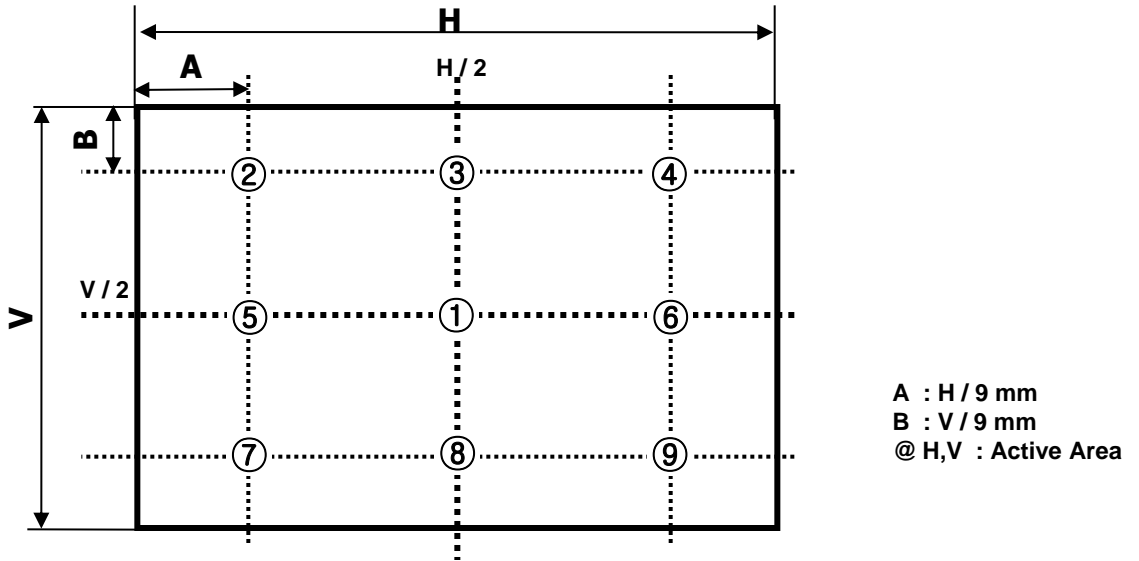

FIG. 2 9 Points for Luminance Measure
2. Surface luminance is determined after the unit has been 'ON' and 1 Hour after lighting the backlight in a dark environment at  $25 \pm 2^\circ\text{C}$ . Surface luminance is the luminance value at center 1-point across the LCD surface 50cm from the surface with all pixels displaying white. For more information see the FIG. 2
For more information, see the FIG. 2.